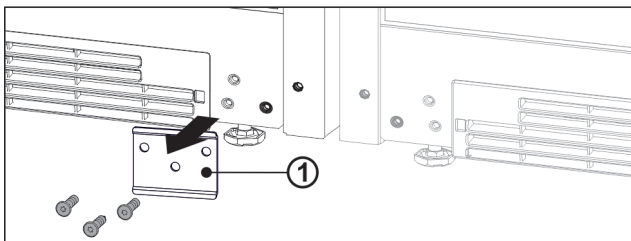

Fig. 14
- If the metal plate Fig. 14 (1) is installed, unscrew the metal plate.